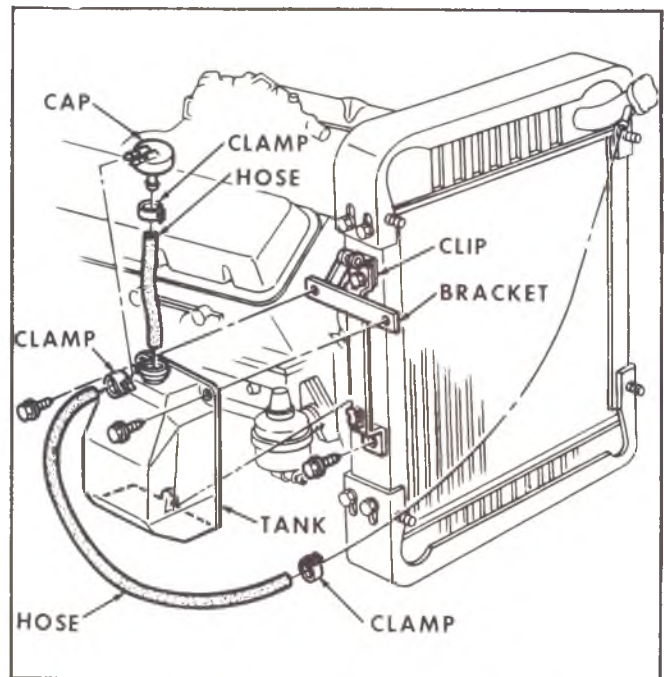

Fig. 8—Coolant Recovery System—P30 (32)
Refer to Figure 8 for coolant recovery system on P30 (32) chassis.